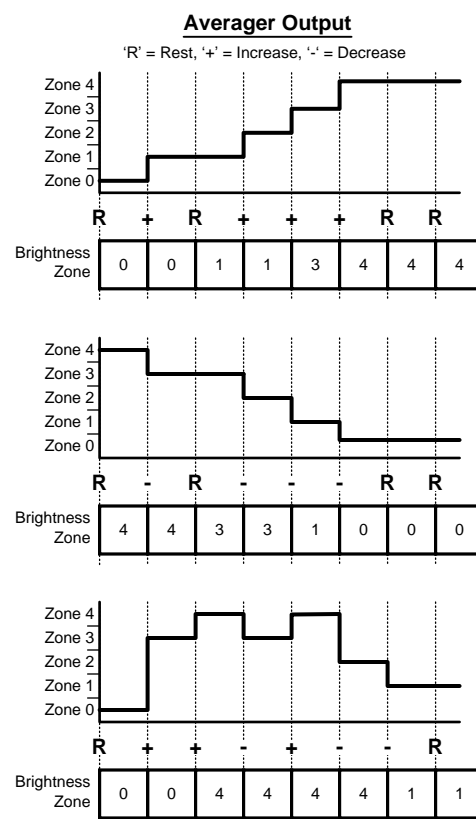

Figure 29. Brightness Zone Change Examples
5. To increase the brightness zone, the Averager output must have increased for at least 2 averaging periods or increased and remained at the new level for at least two averaging periods ('+' to '+' or '+' to 'Rest' in Figure 29).
6. To decrease the brightness zone, the Averager output must have decreased for at least 2 averaging periods or decreased and remained at the new level for at least two averaging periods ('-' to '-' or '-' to 'Rest' in Figure 29).
In the case of two consecutive increases or decreases in the Averager output, the LM3530 will transition to zone equal to the last averager output (Figure 29).